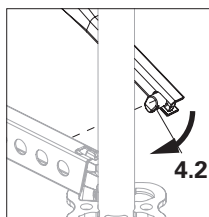

Fig. A1.03c
3. Fit Ledger Braces UBL-2 (4):
- Insert the mounting finger (4.2) at an angle into the hole of the bottom Horizontal Ledger UH-2. (Fig. A1.03c + A1.03d)